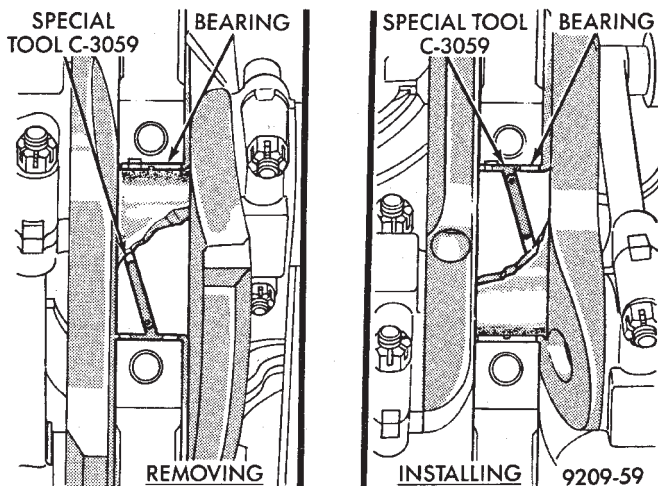

Fig. 35 Upper Main Bearing Removal and Installation with Tool C-3059
- (1) Remove the oil pan.
- (2) Remove the oil pump from the rear main bearing cap.
- (3) Identify bearing caps before removal. Remove bearing caps one at a time.
- (4) Remove upper half of bearing by inserting Crankshaft Main Bearing Remover/Installer Tool C-3059 into the oil hole of crankshaft (Fig. 35).
- (5) Slowly rotate crankshaft clockwise, forcing out upper half of bearing shell.
- (1) Start bearing in place, and insert Crankshaft Main Bearing Remover/Installer Tool C-3059 into oil hole of crankshaft (Fig. 35).
- (2) Slowly rotate crankshaft counterclockwise sliding the bearing into position. Remove Tool C-3059.
- (3) Install the bearing cap. Clean and oil the bolts. Tighten the capbolts to 115 N·m (85 ft. lbs.) torque.
- (4) Install the oil pump.
- (5) Install the oil pan.